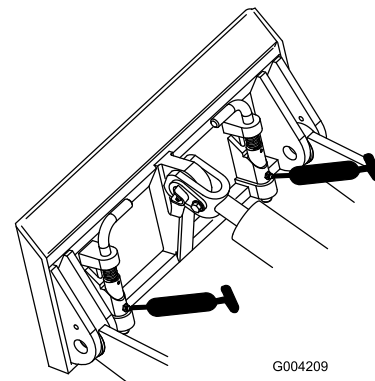

**Figure 18**
3. Connect a grease gun to each fitting (Figure 18 and Figure 19).